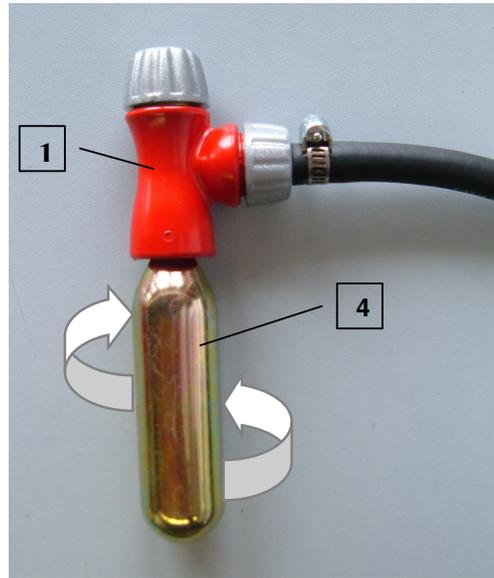

Fig.2
- b) Carefully screw the cartridge 4 on threaded hole 1/8"G (3) of the valve body till a slight resistance (strength) is perceived
- c) Than, to perforate it start quickly screwing the cartridge till it completely stops (*fig.2*)